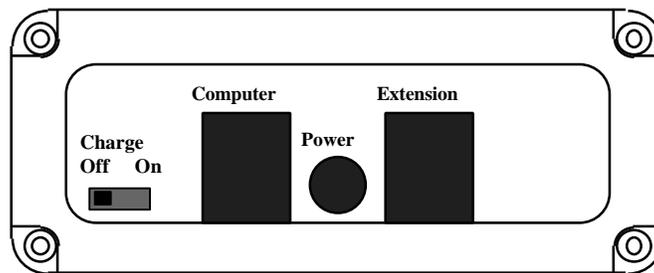

Figure 1-11 LaserLite Pro/Mx Base Station - Side View
The charge switch, **Computer** port, **Power** connection, and **Extension** port are located on the left side of the Base Station (Figure 1-11). The **Computer** port is for the computer's serial port cable connection to the Base Station. The Base Station's power transformer plugs into the **Power** connection. The **Extension** port allows you to connect up to ten Base Stations to a single computer serial port, for transferring data from more than one data collector during a single transfer process. (See Appendix E for information on using multiple Base Stations.)
3. Plug the other end of the transformer cable into the **Power** socket on the side of the Base Station (see Figures 1-11 and 1-12).